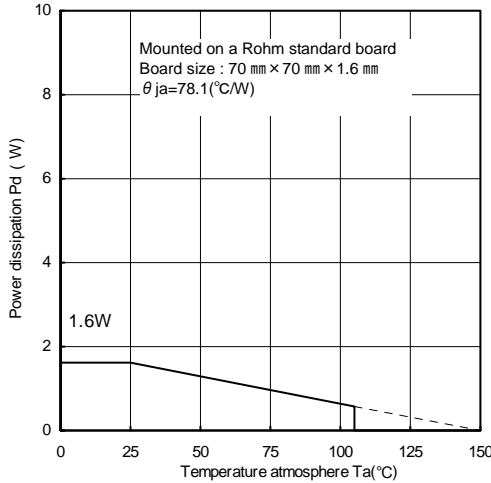
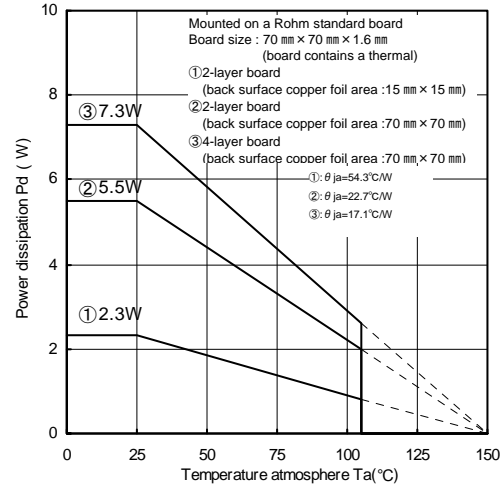

Fig.15
Fig.16 (Reference data)
When using at temperatures over $T_a=25^{\circ}\text{C}$, please refer to the heat reducing characteristics shown in Fig.15. and Fig.16. The IC characteristics are closely related to the temperature at which the IC is used, so it is necessary to operate the IC at temperatures less than the maximum junction temperature $T_{j\text{max}}$.
Fig.15 and Fig.16 shows the acceptable loss and heat reducing characteristics of the HRP5 package. Even when the ambient temperature T_a is a normal temperature (25°C), the chip (junction) temperature T_j may be quite high so please operate the IC at temperatures less than the acceptable loss P_d .
The calculation method for power consumption $P_c(\text{W})$ is as follows :(Fig.16③)
$$I_o \leq \frac{3.796 - 10 \times I_b}{5} \quad \left[\begin{array}{l} \text{Fig.16③: } \theta_{ja}=17.1^{\circ}\text{C/W} \rightarrow -58.4\text{mW}/^{\circ}\text{C} \\ 25^{\circ}\text{C}=7.3\text{W} \rightarrow 85^{\circ}\text{C}=3.796\text{W} \end{array} \right]$$